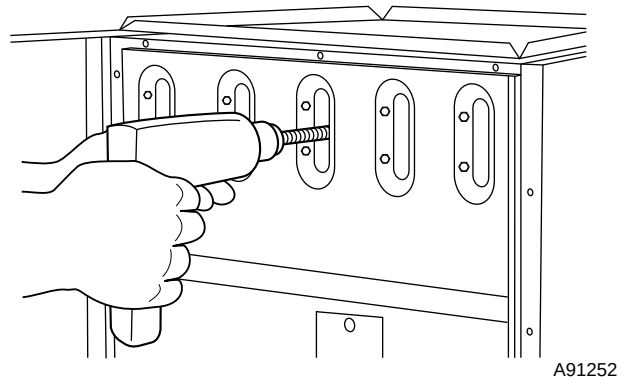

Fig. 8—Cleaning Heat Exchanger Cell
- (3.) Insert brush end of cable into upper opening of cell and slowly rotate with drill. **DO NOT** force cable. Gradually insert at least 36 in. of cable into 2 upper passes of cell. (See Fig. 8.)